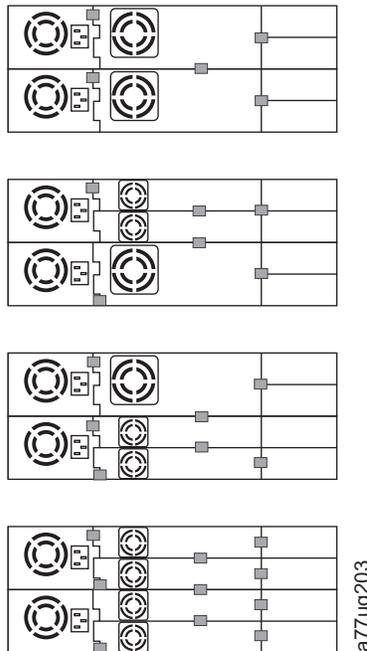

Figure 10-20. Drive sled taping diagrams
- h. If a drive sled without ESD springs is installed (see Figure 10-19), apply conductive tape as shown in Figure 10-20 on page 10-19.